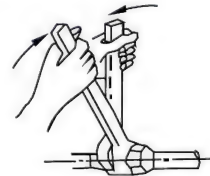

Fig.8-2
- Put the connecting tubing at the proper position, wrench the nuts with hands then fasten it with a wrench. (refer to Fig.8-2)